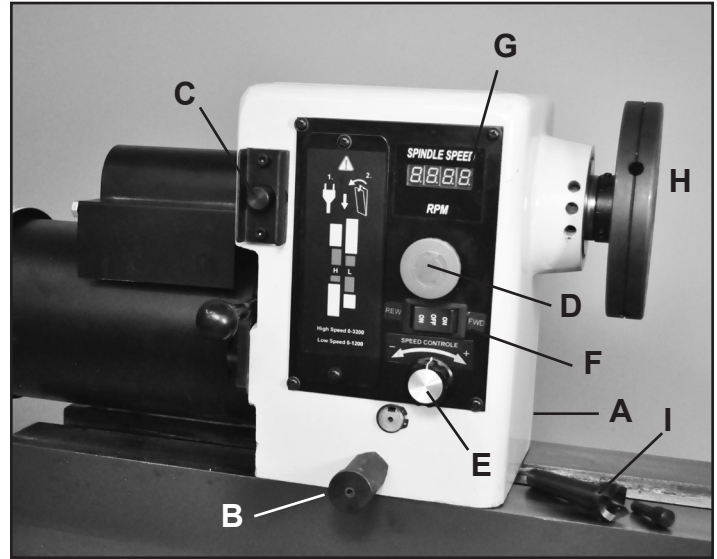

FIG. 4
1. **HEADSTOCK LOCK HANDLE:** (FIG. 4, A) The rear lever locks the headstock head in position on the lathe bed. To move the headstock along the bed, unlock lever handle, then re-tighten handle when the headstock is re-positioned.
9. **HEADSTOCK SPUR CENTER:** (FIG. 4 & 7, I) The Spur Center (#B1) is used for turning between centers. It fits into the spindle. Both spindle and the spur center have matching MT-2 tapers. The spur center can be removed from the spindle with the Knockout Bar (#B30). Insert the knockout bar through the opposite, outboard left end of the spindle, and then hit the spur center's back end to knock it out of the spindle. NOTE: Be careful and hold the spur center during this process so it does not fly out onto the floor.